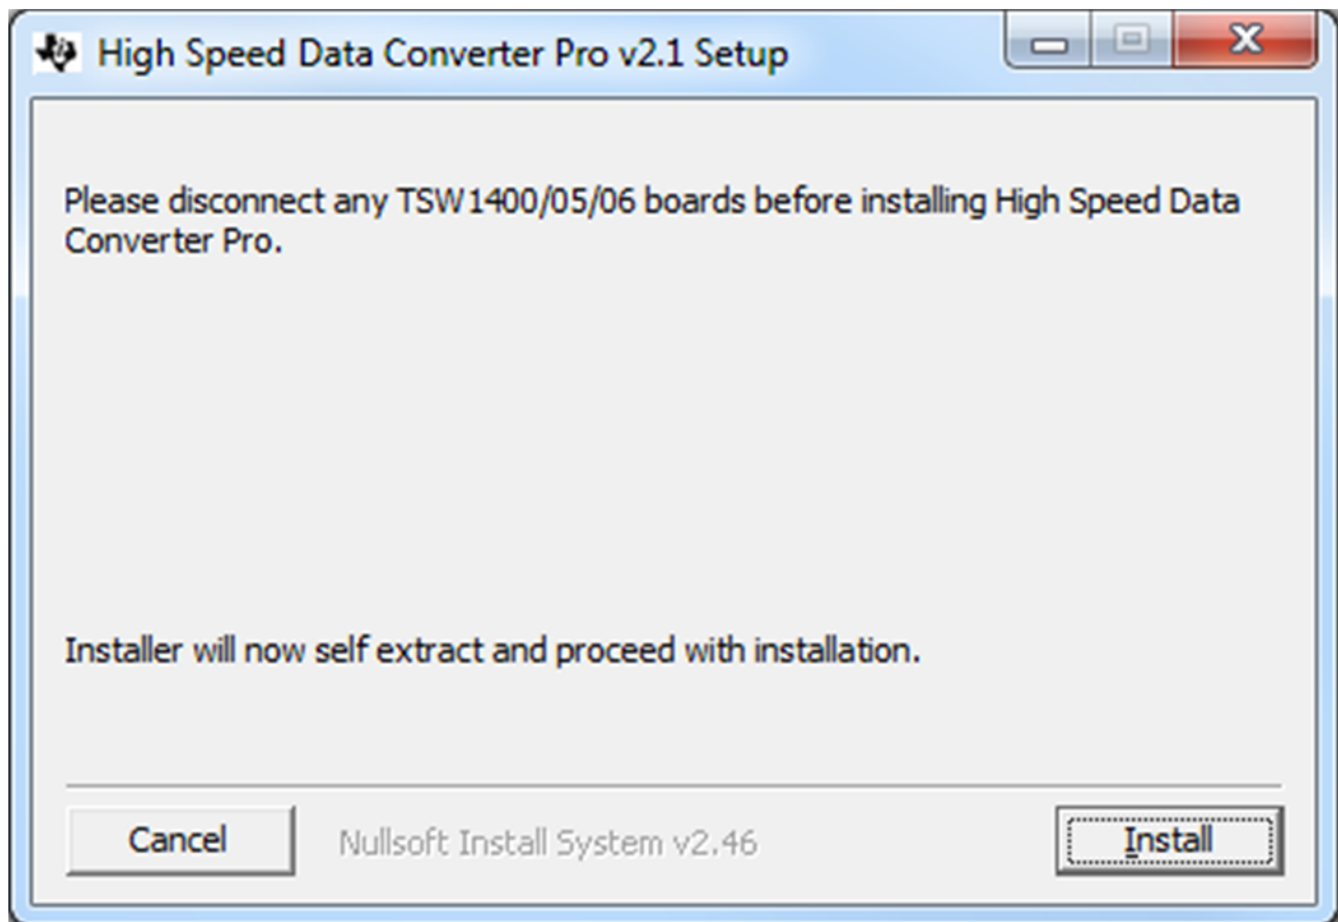

Figure 40. HSDCPro Install (Begin)
- Unzip the saved folder and run the installer executable to obtain the pop-up shown in Figure 40.